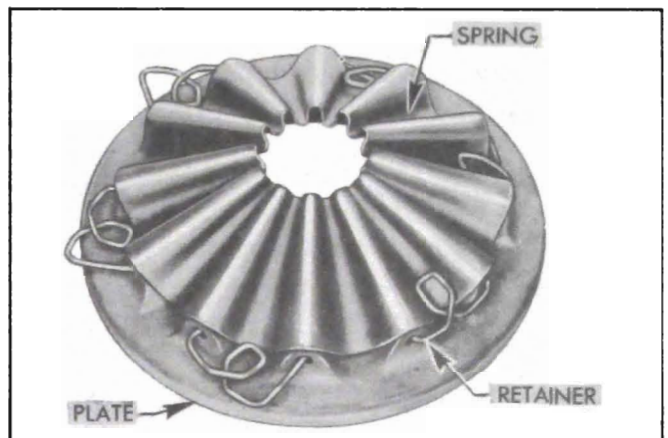

Figure 4-12—Assembling Pressure Plate, Clutch Spring and Retainers
4. Lift off clutch spring and remove retainers from pressure plate. See figure 4-12.
3. Place clutch spring on pressure plate *with marks made at disassembly in alignment*, then push spring retainers up over the spring. See figure 4-12.